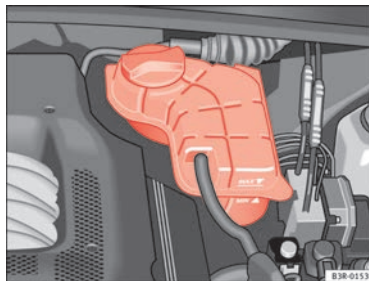

Fig. 171 Engine compartment: Coolant fluid deposit
- Check the coolant level on coolant fluid expansion tank ⇒ Fig. 171. When the engine is cold, it should be between the “min” and “max” marks. When the engine is hot, it may be slightly above the “max” mark.
- Cover the cap on the expansion tank ⇒ Fig. 171 with a cloth, and **carefully** unscrew the cap anticlockwise ⇒ .